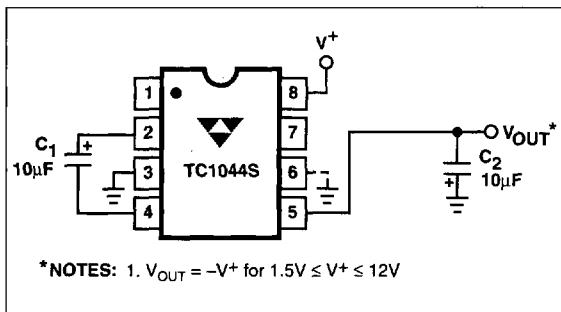
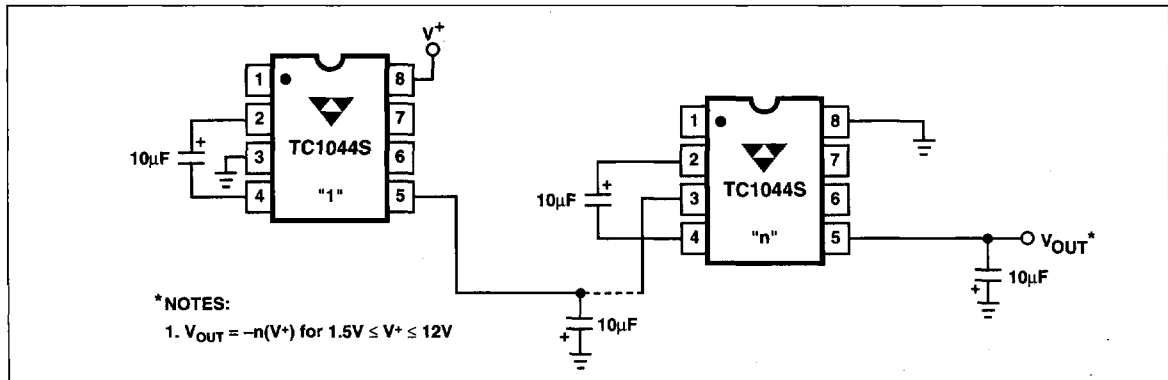
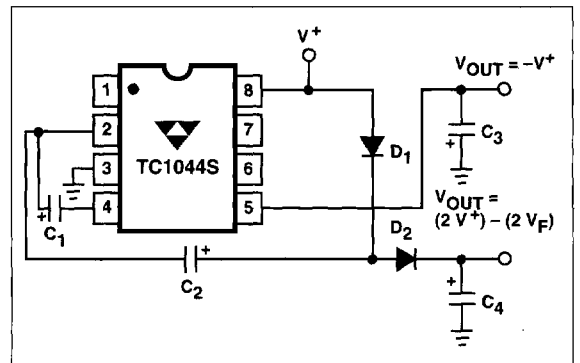
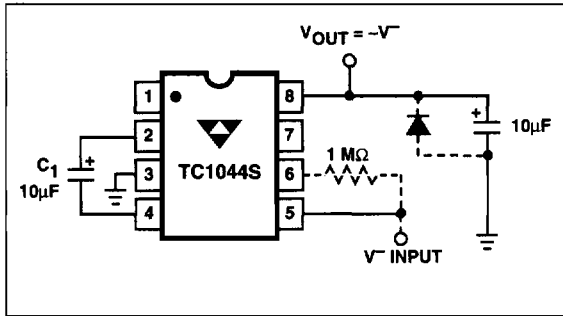

Figure 3. Simple Negative Converter
Figure 5. Increased Output Voltage by Cascading Devices
Figure 9. Combined Negative Converter and Positive Multiplier
Figure 10. Positive Voltage Conversion
Figure 3 shows typical connections to provide a negative supply where a positive supply is available. A similar scheme may be employed for supply voltages anywhere in the operating range of +1.5V to +12V, keeping in mind that pin 6 (LV) is tied to the supply negative (GND) only for supply voltages below 3.5V.
The output characteristics of the circuit in Figure 3 are those of a nearly ideal voltage source in series with 70Ω . Thus, for a load current of $-10mA$ and a supply voltage of $+5V$, the output voltage would be $-4.3V$.
The TC1044S may be cascaded as shown (Figure 5) to produce larger negative multiplication of the initial supply voltage. However, due to the finite efficiency of each device, the practical limit is 10 devices for light loads. The output voltage is defined by:
Figure 9 combines the functions shown in Figures 3 and 8 to provide negative voltage conversion and positive voltage multiplication simultaneously. This approach would be, for example, suitable for generating +9V and -5V from an existing +5V supply. In this instance, capacitors C_1 and C_3 perform the pump and reservoir functions, respectively, for the generation of the negative voltage, while capacitors C_2 and C_4 are pump and reservoir, respectively, for the multiplied positive voltage. There is a penalty in this configuration which combines both functions, however, in that the source impedances of the generated supplies will be somewhat higher due to the finite impedance of the common charge pump driver at pin 2 of the device.
Since the switches that allow the charge pumping operation are bidirectional, the charge transfer can be performed backwards as easily as forwards. Figure 10 shows a TC1044S transforming -5V to +5V (or +5V to +10V, etc.). The only problem here is that the internal clock and switch-drive section will not operate until some positive voltage has been generated. An initial inefficient pump, as shown in Figure 9, could be used to start this circuit up, after which it
will bypass the other (D_1 and D_2 in Figure 9 would never turn on), or else the diode and resistor shown dotted in Figure 10 can be used to "force" the internal regulator on.
The same bidirectional characteristics used in Figure 10 can also be used to split a higher supply in half, as shown in Figure 11. The combined load will be evenly shared between the two sides. Once again, a high value resistor to the LV pin ensures start-up. Because the switches share the load in parallel, the output impedance is much lower than in the standard circuits, and higher currents can be drawn from the device. By using this circuit, and then the circuit of Figure 5, +15V can be converted (via +7.5V and -7.5V) to a nominal -15V, though with rather high series resistance (~250Ω).